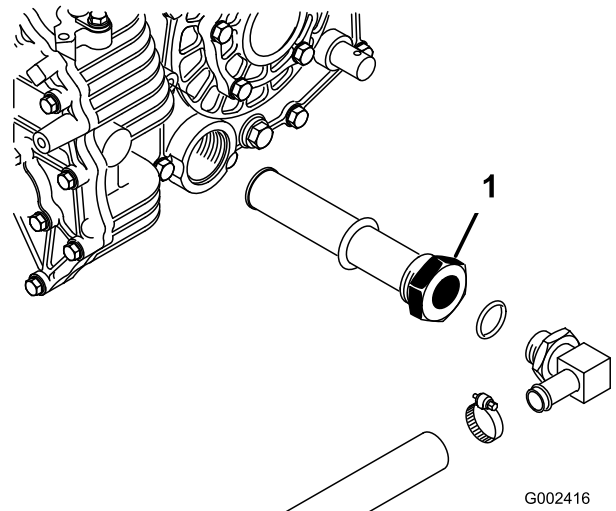

Figure 64
3. Note the orientation of the hydraulic hose and 90° fitting connected to the strainer on the side of the reservoir (Figure 64).